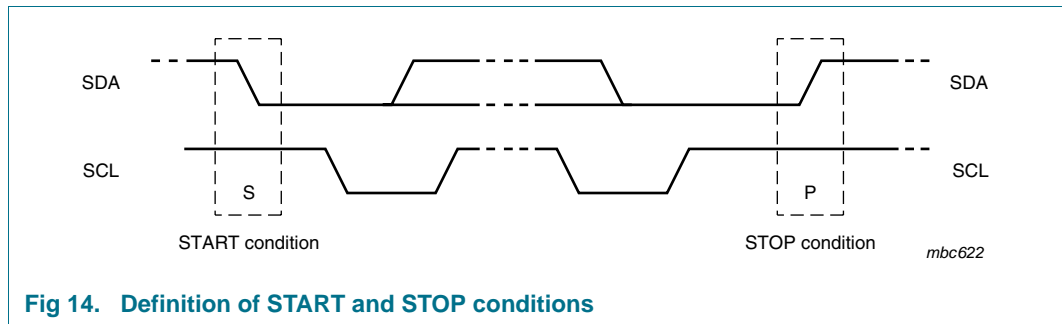

Fig 14. Definition of START and STOP conditions
Both data and clock lines remain HIGH when the bus is not busy. A HIGH-to-LOW change of the data line, while the clock is HIGH is defined as the START condition (S). A LOW-to-HIGH change of the data line while the clock is HIGH is defined as the STOP condition (P). The START and STOP conditions are shown in Figure 14.